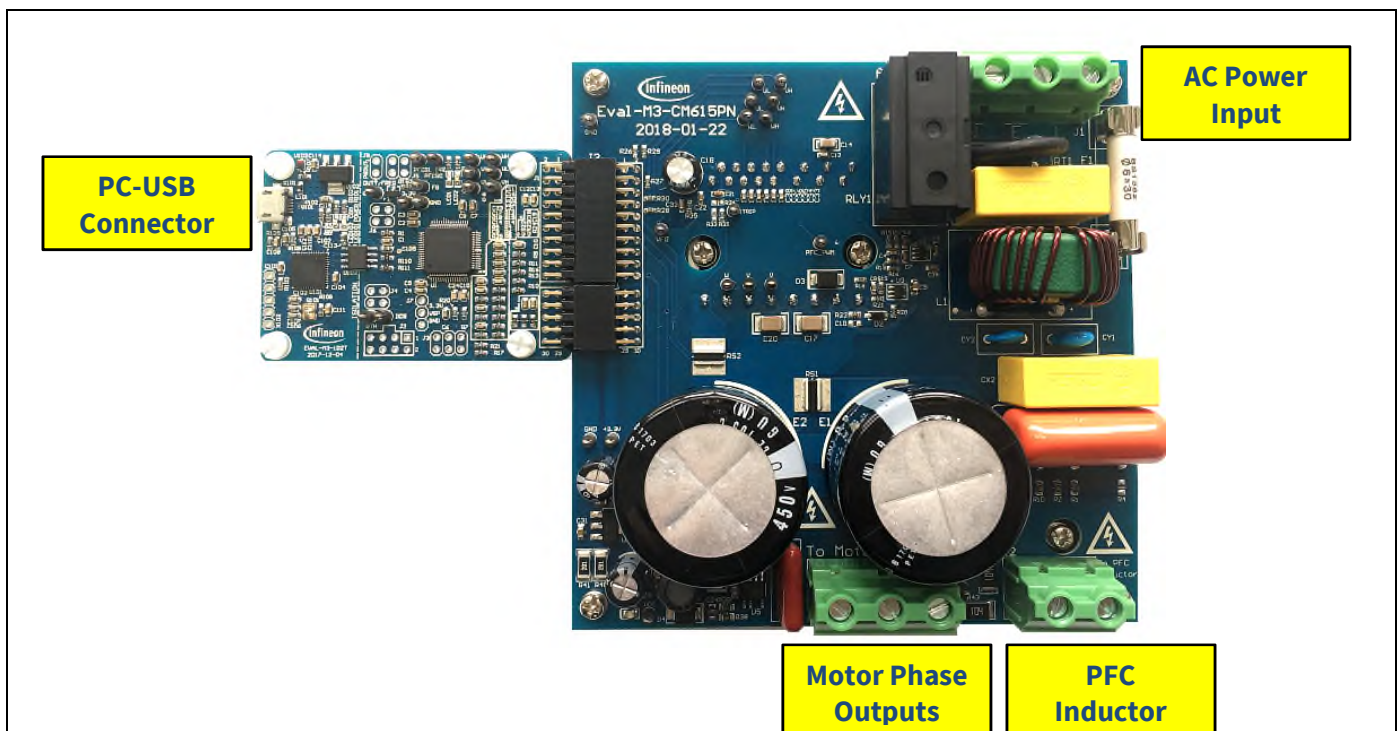

Figure 5 System connection example using EVAL-M3-102T and EVAL-M3-CM615PN
3. Connect EVAL-M3-102T's M3 30-pin interface connector (J1) to power board (For example EVAL-M3-CM615PN, see Figure 5).